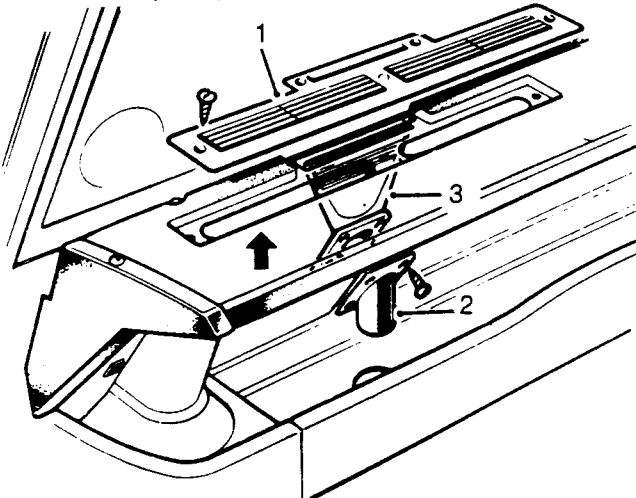

Fig N3.10
- (2) Refer to Fig N3.10. Remove the fresh air grille (1) (two screws).
- (3) Remove the nozzle adaptor fixings and withdraw the adaptor (2).
- (4) Manoeuvre the nozzle (3) out through the fresh air grille aperture.